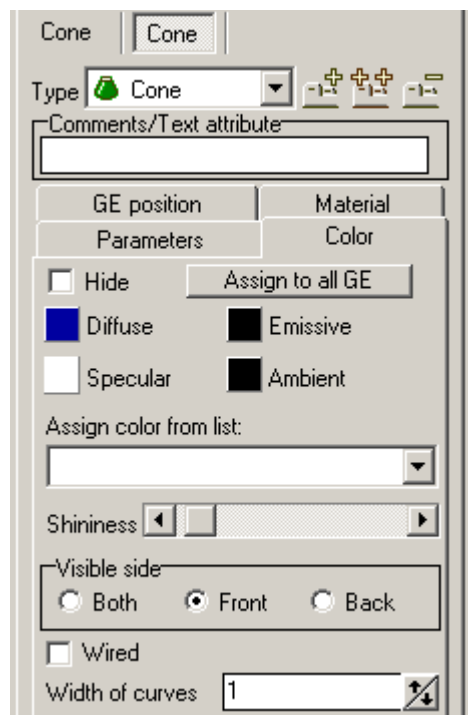

Figure 3.9
7. Set the diffuse component of the GE color by **Diffuse** button on the **Color** tab (Fig. 3.9)